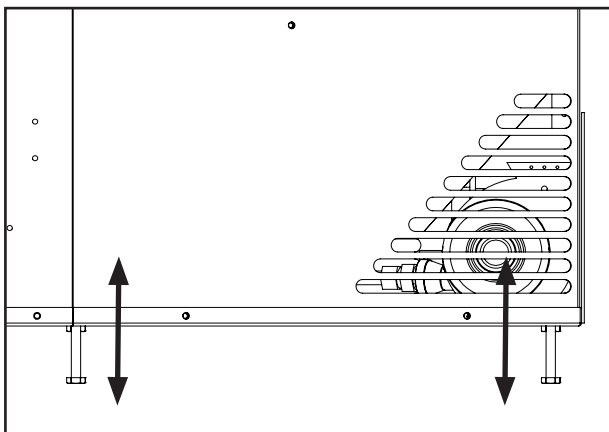

Figure 31: Levelling Legs Position.
15. Adjust the levelling legs to ensure the unit is level and high enough if a base shelf and/or riser is to be installed. There are four levelling legs on the bottom of the unit (shown in Figure 31).